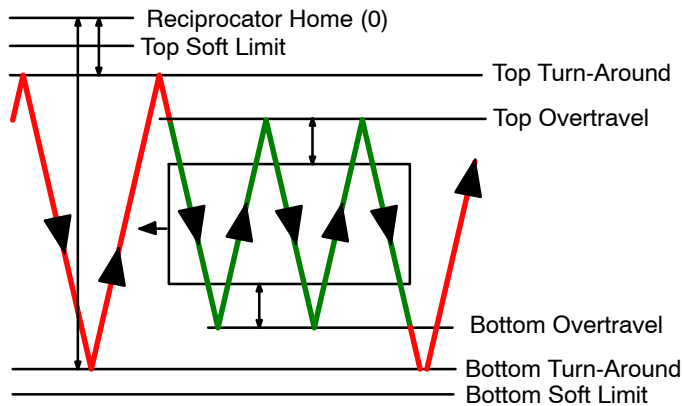

Figure 4-20 Variable Mode: Overtravel Settings Positive, Extended Pattern
- Positive overtravel settings extend the spray pattern (see Figure 4-20).